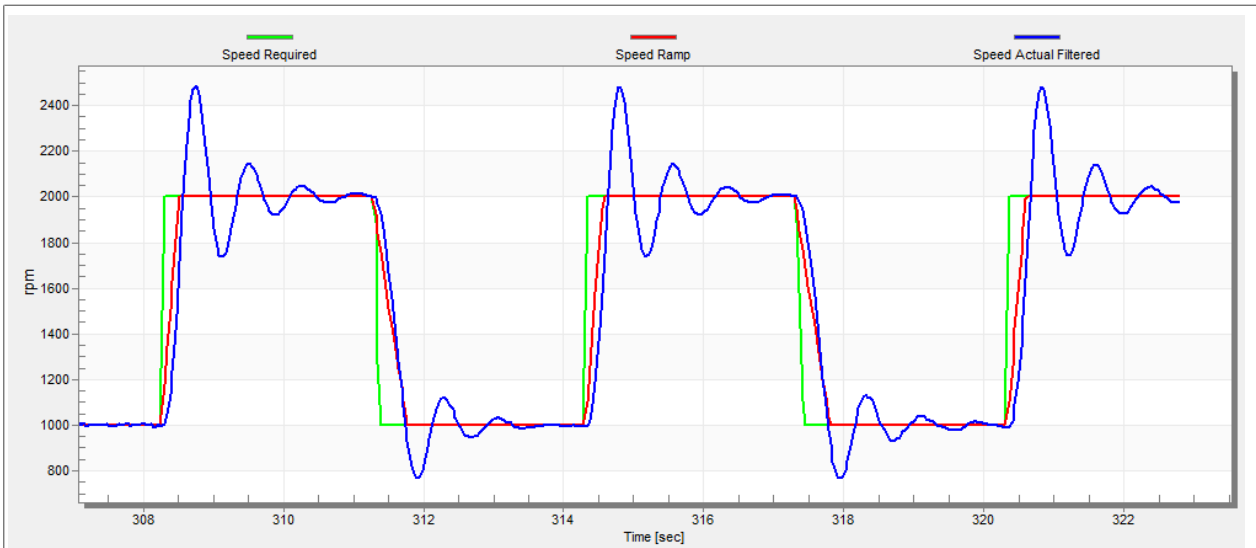

Figure 33. Speed controller response—SL_Kp value is low, Speed Actual Filtered greatly overshoots
- The “SL_Kp” value is low, the “Speed Actual Filtered” greatly overshoots, and the long settling time is unwanted (see Figure 33).